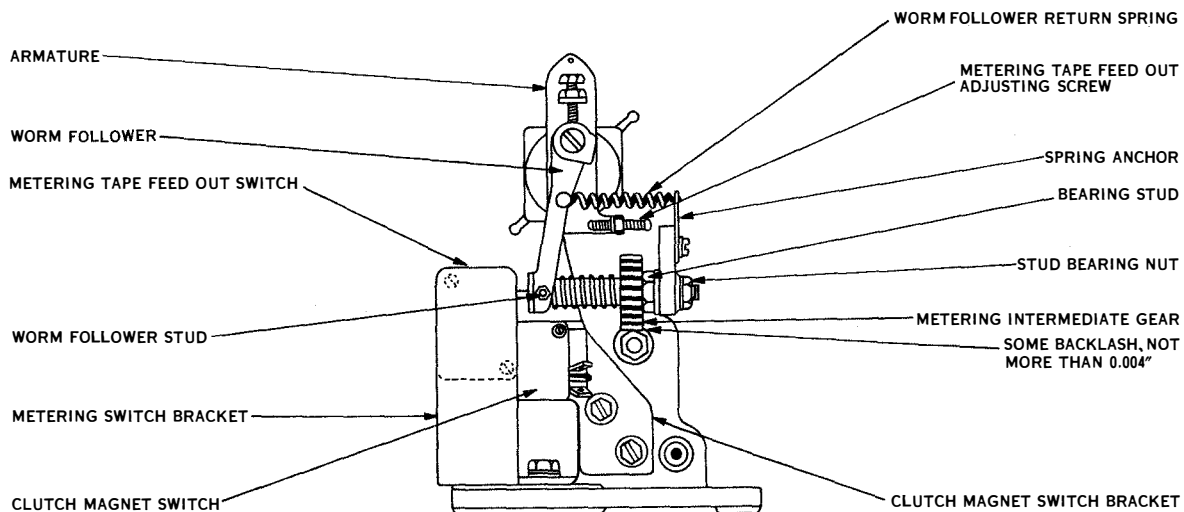

Figure 7-72. Metering Intermediate Gear
(95) **METERING INTERMEDIATE GEAR.** (See figure 7-72.)—There should be some backlash, not more than 0.004 inch, between the metering intermediate gear and worm. Check throughout one complete revolution of the gear. To adjust, loosen the stud bearing nut and position the stud bearing. Tighten the nut and recheck the backlash.
(97) METERING TAPE FEED-OUT SWITCH. (See figure 7-72.)—When the stud on the worm follower is engaged in the last spiral on the worm, the switch should operate (open) with a minimum of 0.015-inch overtravel. To adjust, position the switch bracket. Hold the bracket in position and tighten the mounting screws.
(98) METERING TAPE FEED-OUT ADJUSTING SCREW. (See figure 7-72.)—It should be possible to automatically feed-out up to approximately 40 inches of tape. To adjust, position the metering tape feed-out adjusting screw for the desired length of tape. Hold the screw in position and tighten its lock nut.
(99) SYNCHRONOUS MOTOR STARTING SWITCH SPRING TENSION.